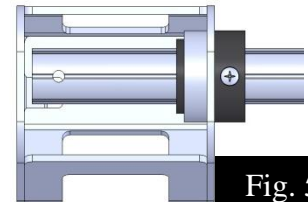

Fig. 5.2
4. Make sure that the polymer bushing is fully seated in the aluminum head that is bolted to the arm as shown in Fig. 5.2